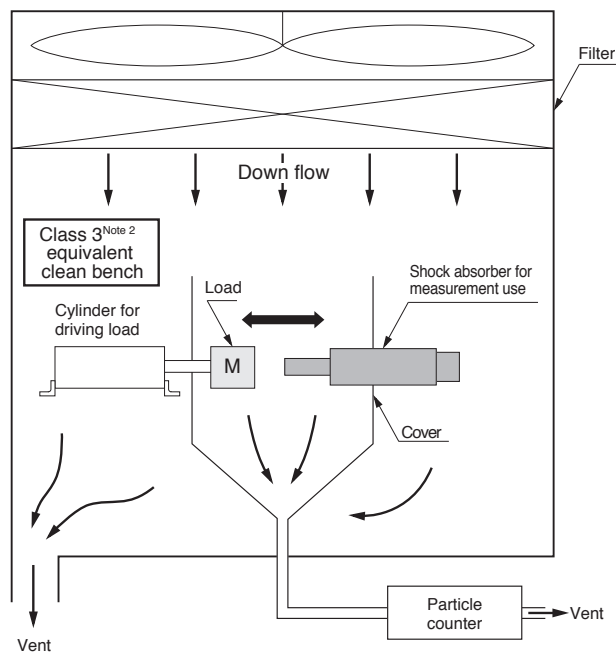

Figure 1
1. We measure particles in the clean bench (Figure 1) without activating the shock absorber for measurements and the load driving cylinder in the clean bench (background measurement).^{Note}